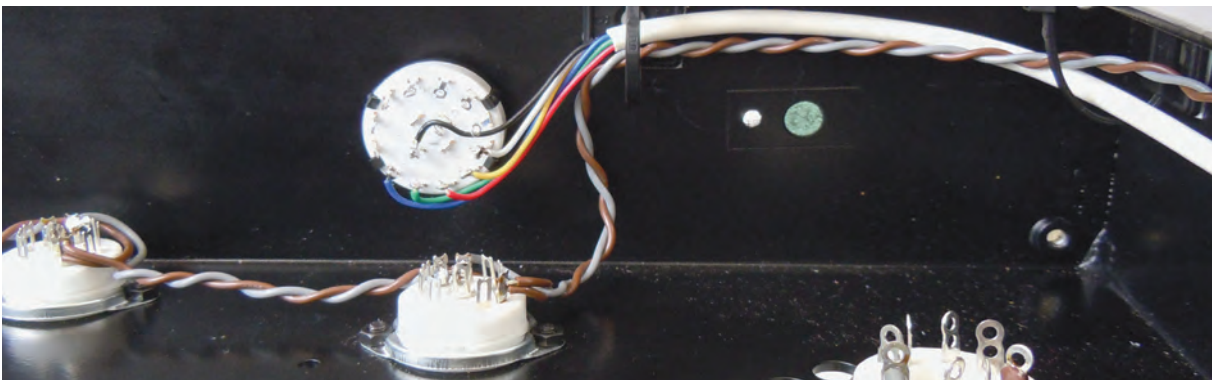

Fig. 18 Input Selector Switch
**Fig. 18** Route the twisted brown and grey wires from the relay PCB round the side of the chassis to the right hand U2 valve base and cut to length. Solder brown to pin 8 and grey to pins 4-5.
**Fig. 18** Holding the shaft of the switch in a small vice or mole grips, cut the shaft of the input selector switch to 20mm length measured from the end of the threaded portion. Sand the cut end of the shaft smooth to fit the chrome knob.